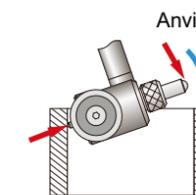

Fig.2
---Please do not insert the bore gage into workpiece or setting ring from the anvil side. It is necessary to press the contact point and protect bridge into setting ring or workpiece firstly, then make the anvil contact with the inwall and turn the bore gage upright slightly (fig.2).